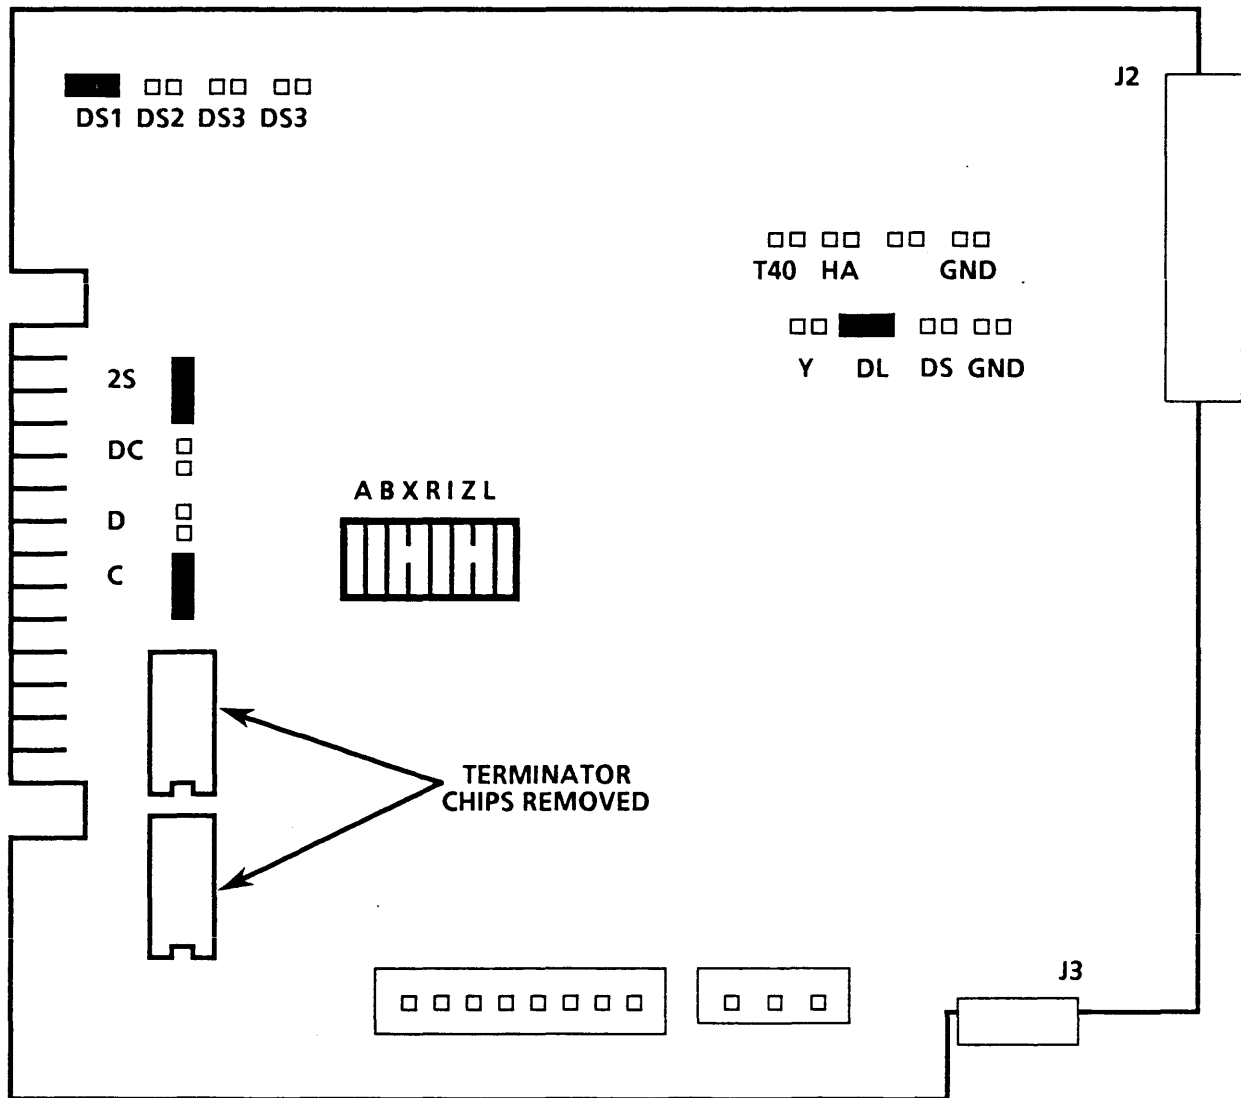
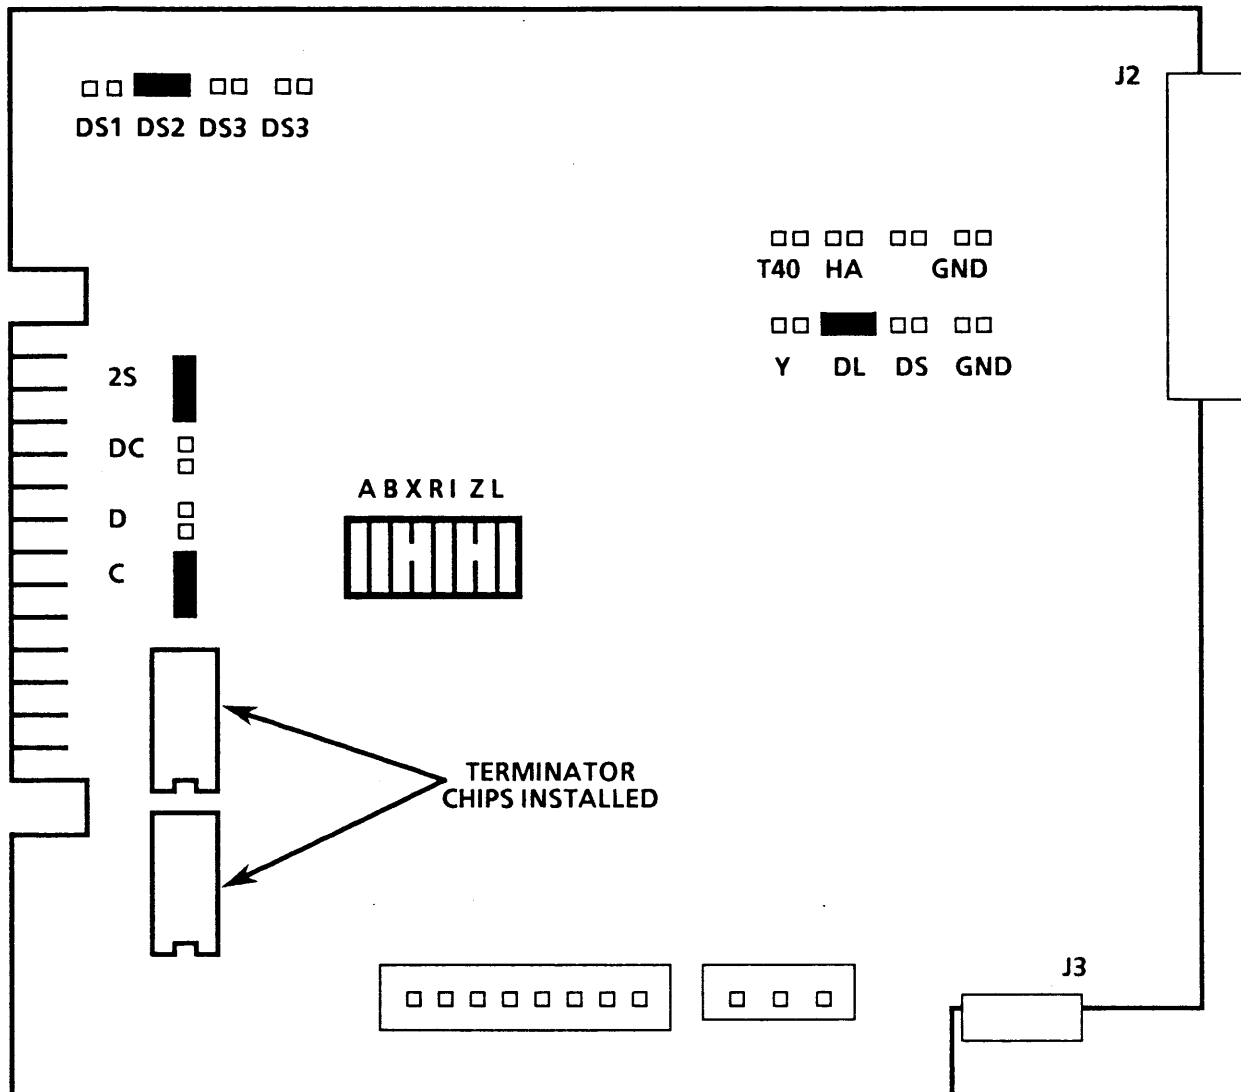

Figure 3-1 Qume Drive Jumpers Locations (Drive A)
Figure 3-2 Qume Drive Jumpers Locations (Drive B)
REPLACEMENT (FIGURES 3-1, 3-2)
1. CONFIGURE DISK DRIVE (FIGURE 3-1 OR 3-2).
- a. Refer to Figure 3-1 for Drive A and Figure 3-2 for Drive B.